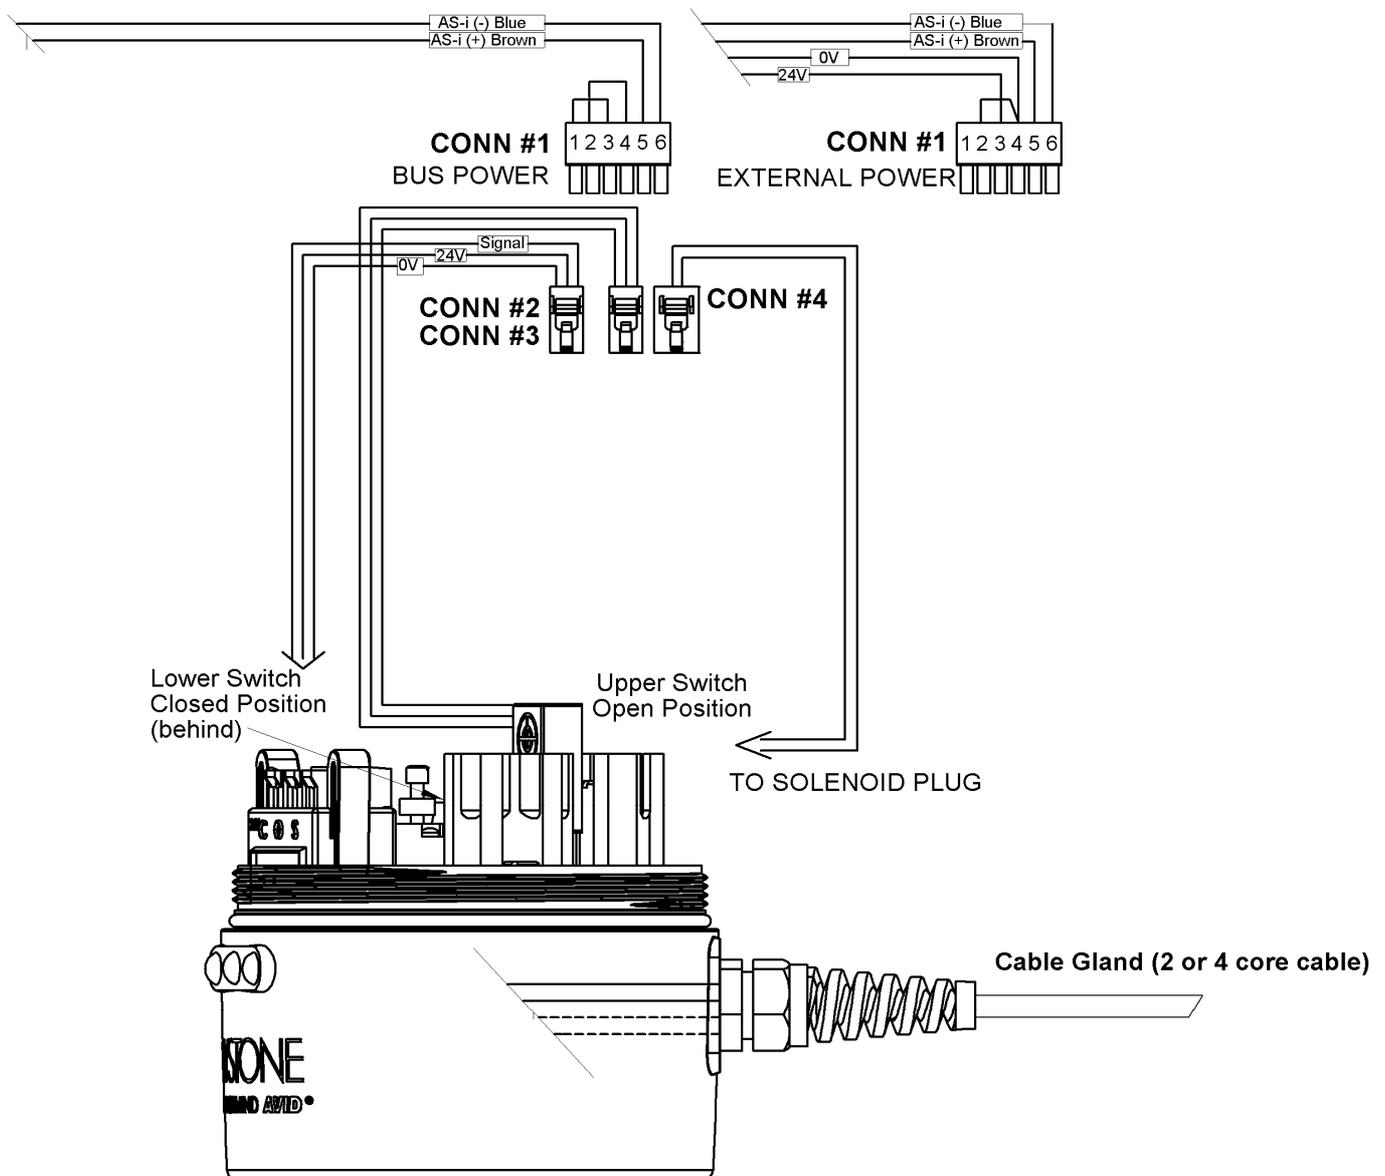

Fig 17: Electrical connection AS-interface cable gland
- ⇒ Twist each core firmly and fold in half before fitting to the terminals of the 6-way header plug, the correct location for each core is printed on the rear of the module, as below in Fig 17.